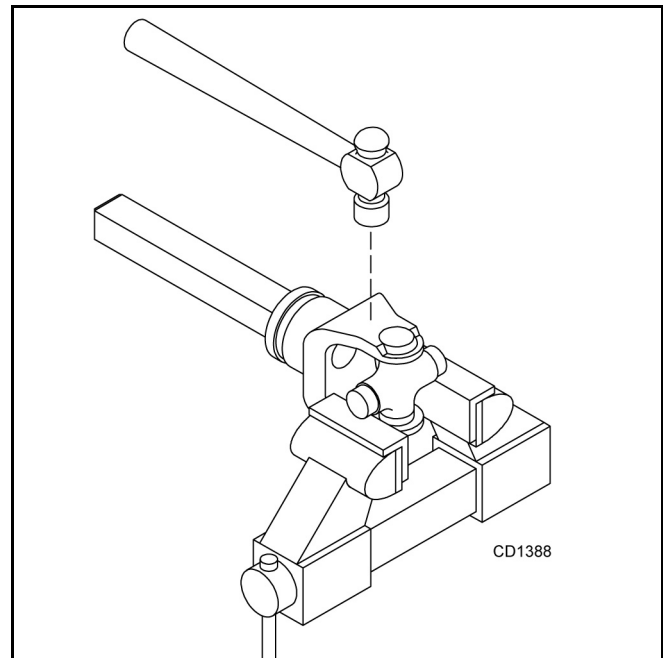

Figure 18
4. Place universal cross in vise as shown in Figure 18 and tap on yoke to remove cup. Repeat step 3 for final removal. Drive remaining cup out with a drift and hammer.